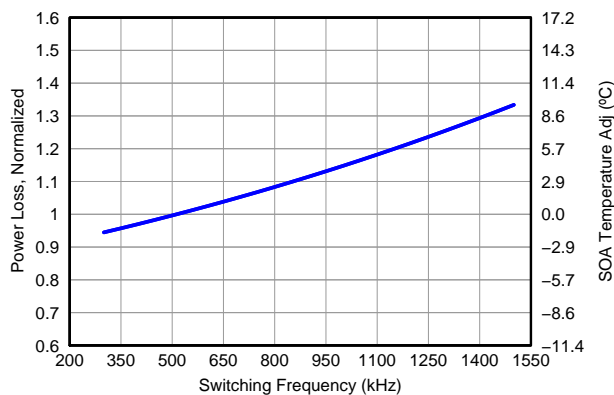

Figure 6. Normalized Power Loss vs Switching Frequency
- Normalized Power Loss for switching frequency  $\approx 1.15$  (Figure 6)
- SOA adjustment for switching frequency  $\approx 4.2^\circ\text{C}$  (Figure 6)